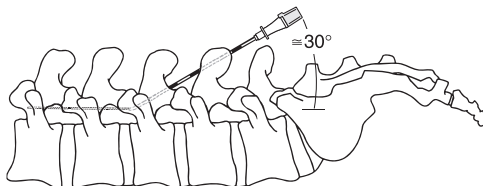
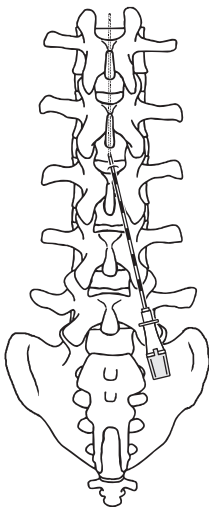

Figure 2. Shallow paramedian oblique insertion side view.
Figure 3. Shallow paramedian oblique insertion top view.
2. Orient the bevel of the 15 T-gauge introducer needle cephalad or parallel to the dural fibers and insert while using fluoroscopy. Use a paramedian oblique approach to insert the needle into the intrathecal space at a shallow angle (approximately equal to 30°) (Figure 2 on page 8). The entry point of the needle into the skin (or fascia, if needle insertion is performed through an open incision) should be parallel to the vertebral pedicle, approximately 1 to 1.5 vertebral levels below the interlaminar space selected for dural puncture and 1–2 cm lateral to the midline on the side of the intended pump pocket (Figure 2 and Figure 3 on page 8).